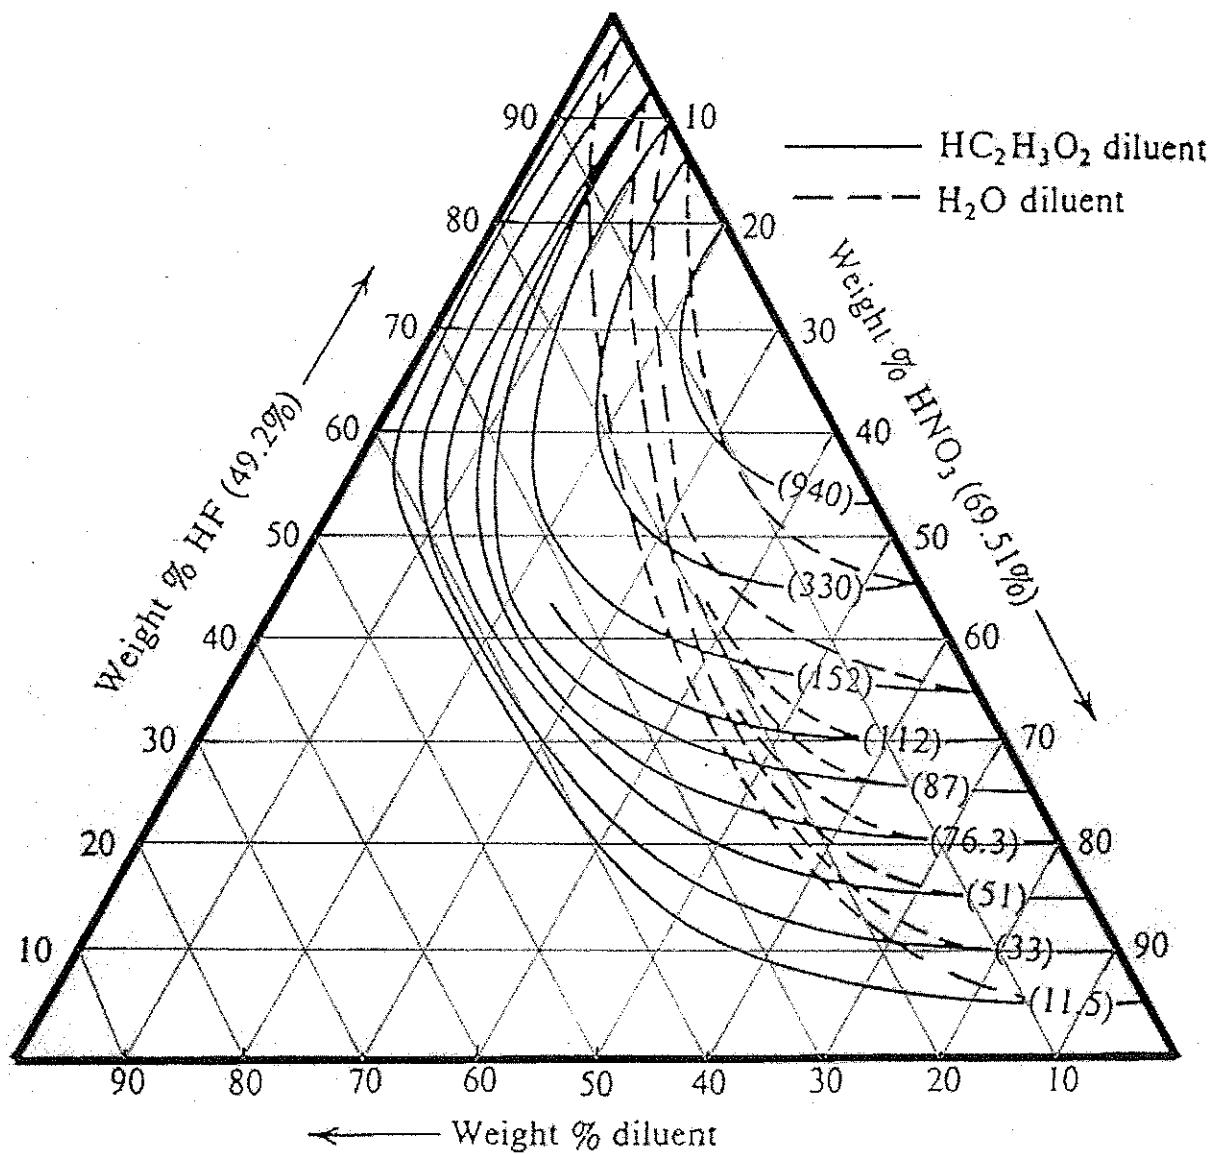

Figure 2
- Q9. A wet etchant for Si is prepared by mixing 29 grams of HF, 50 grams of HNO3 and 21 grams of diluent (water). How much time would this etchant take to remove 100 µm of silicon. Some more water is added to the etching mixture and the etch rate drops to 11.5 µm/min. How much water has been added? Show your answers using the isoetch curves of Figure 2